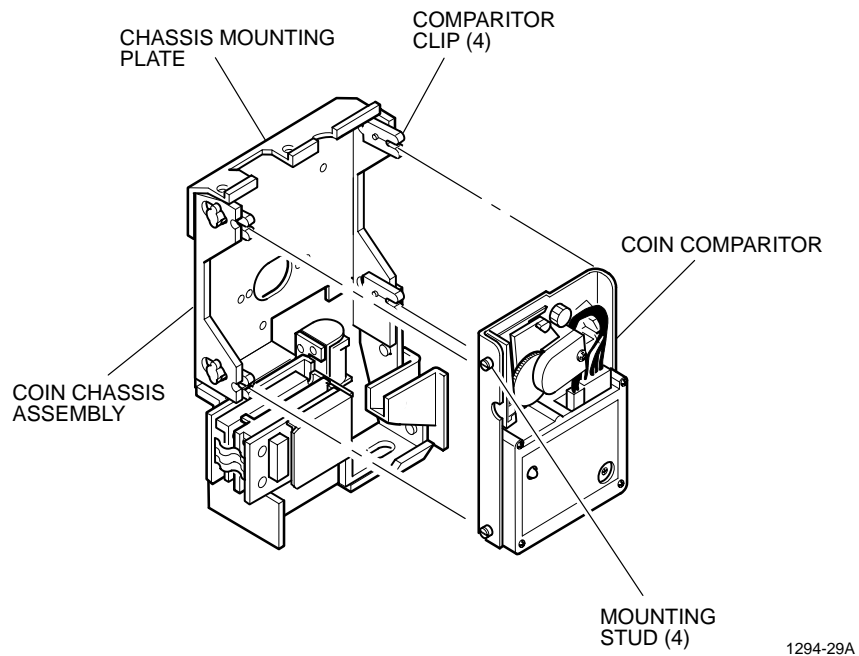

Figure 5-8. Coin-In Assembly – Coin Comparitor Removal.
1. Remove the coin comparitor from the coin-in assembly (see Figure 5-8).